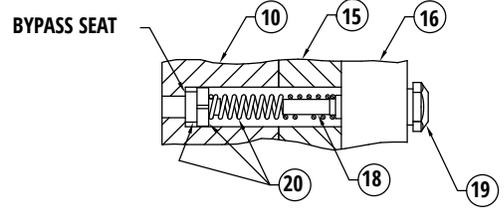

FIGURE 3
4. Apply a thin coat of silicone lubricant (furnished in Service Pak) to three new O-Rings (9) and install in the Cap (16) and Body (10) O-Ring grooves. Omit silicone lubricant if it is incompatible with your pumped fluid.
**Note:** Instructions for “slip fit” Design. Install Driving Gear Assembly (12); then slip fit Driven Magnet (7) on shaft (no screw required for this design). Instructions for Magnet Clamp Screw Design. Install Driving Gear Assembly (12), Magnet Hub (8), Driven Magnet (7), Magnet Clamp (6) and Magnet Clamp Screw (5). Hold Driven Magnet (7) to prevent rotation and tighten Magnet Clamp Screw (5) counter-clockwise (left hand threads) to 200 in/oz torque (a rubber glove can be used to facilitate holding the Driven Magnet (7)). When performing the following assembly operations DO NOT apply forces to the Driven Magnet (7). Pushing or pulling the Driven Magnet (7) may damage the Driving Gear Assembly (12).
5. Install two Dowel Pins (14) into Body (10) and slip the Cavity Plate (15) over the Dowel Pins (14) against the Body (10) face. The Cavity Plate (15) will fit properly in only one orientation. The Screw holes in the Body (10) and Cavity Plate (15) must align.
6. Install Driven Gear Assembly (13) with the longer shaft extension into the Body (10).
7. If pump is furnished with a Bypass, install Bypass Adjusting Screw (18) through the Bypass Nut (19) and turn clockwise until the Bypass Adjusting Screw (18) is flush with the Bypass Nut (19). Attach Poppet Assembly Spring (20) onto Bypass Adjusting Screw (18).
8. Align Cap (16) with the Driving (12) and Driven (13) Gear Assembly shafts and Dowel Pins (14). Assemble carefully and make certain the Poppet Assembly (20) goes fully into the Poppet hole and seats. See Figure 3.
9. Install two Cap Screws (17) in Cap (16) and torque alternately to 320 in/oz. Torque to 640 in/oz for PTFE O-Rings.
10. Rotate the Driven Magnet (7) by hand to check for any binding during rotation. The Driven Magnet (7) should turn freely. If there is binding determine and remove cause.
11. Install Magnet Cup (4) and Mounting Plate (2) with six Mounting Plate Screws (1). Turn alternately until tight to 320 in/oz.
12. Assemble Pump-Head to Motor and Drive Housing with three Mounting Screws (3). Pump/Motor assembly is now complete.